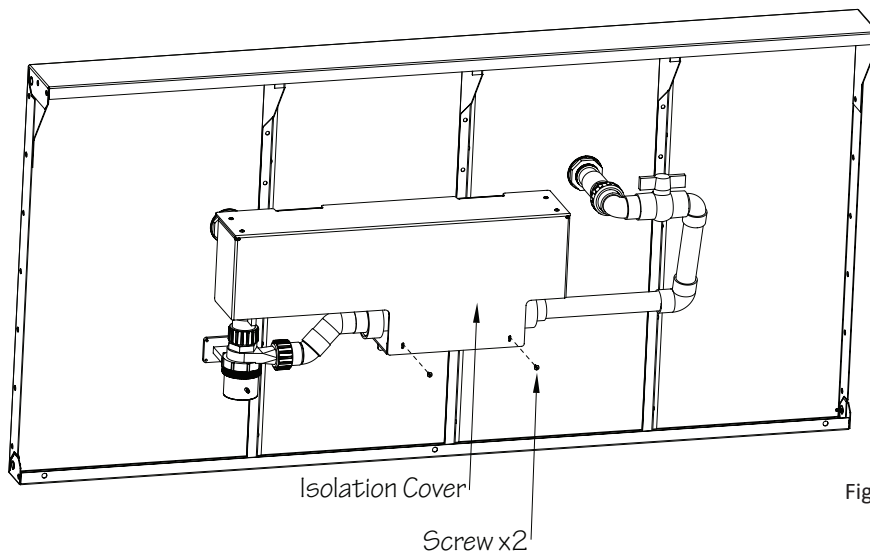

Fig. 21
4. Once the system is fully operational, re-install the Isolation Cover (Fig. 21).